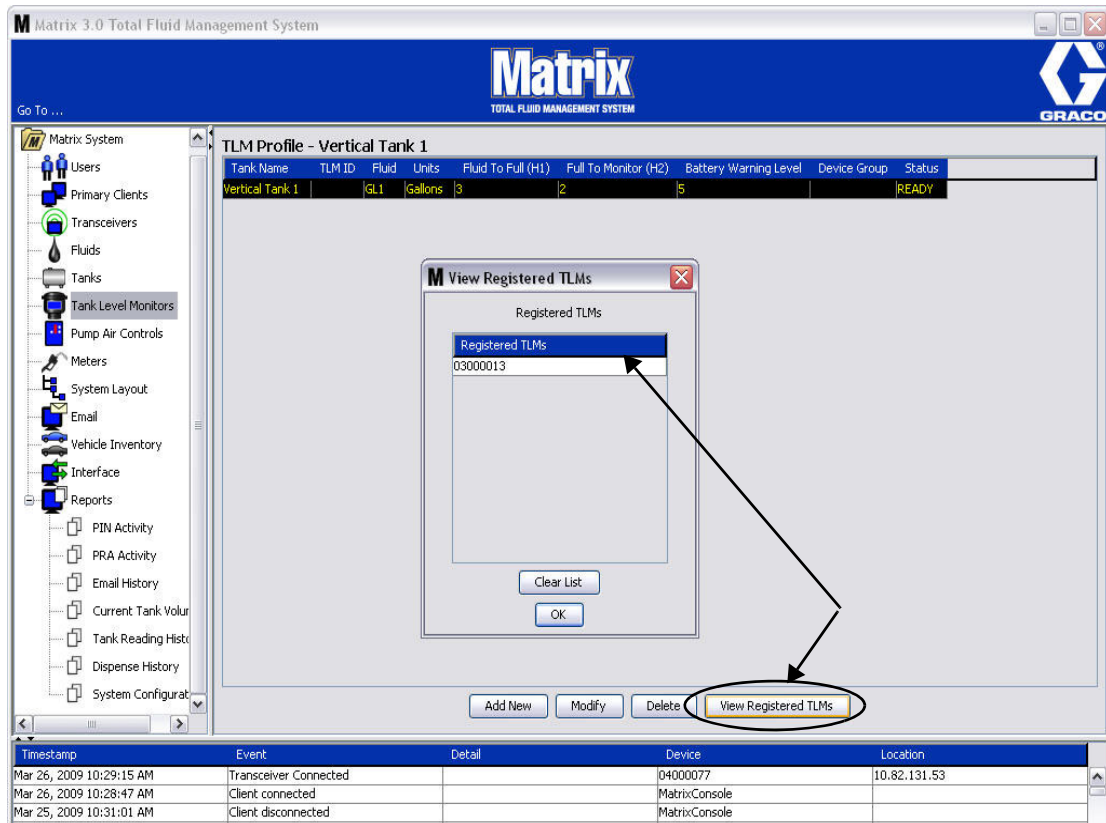

FIG. 110
- The Clear List button removes all registered TLM's from the system (FIG. 110). These TLM's will have to be re-registered with the Matrix PC. See the TLM instruction manual for complete TLM registration instructions.